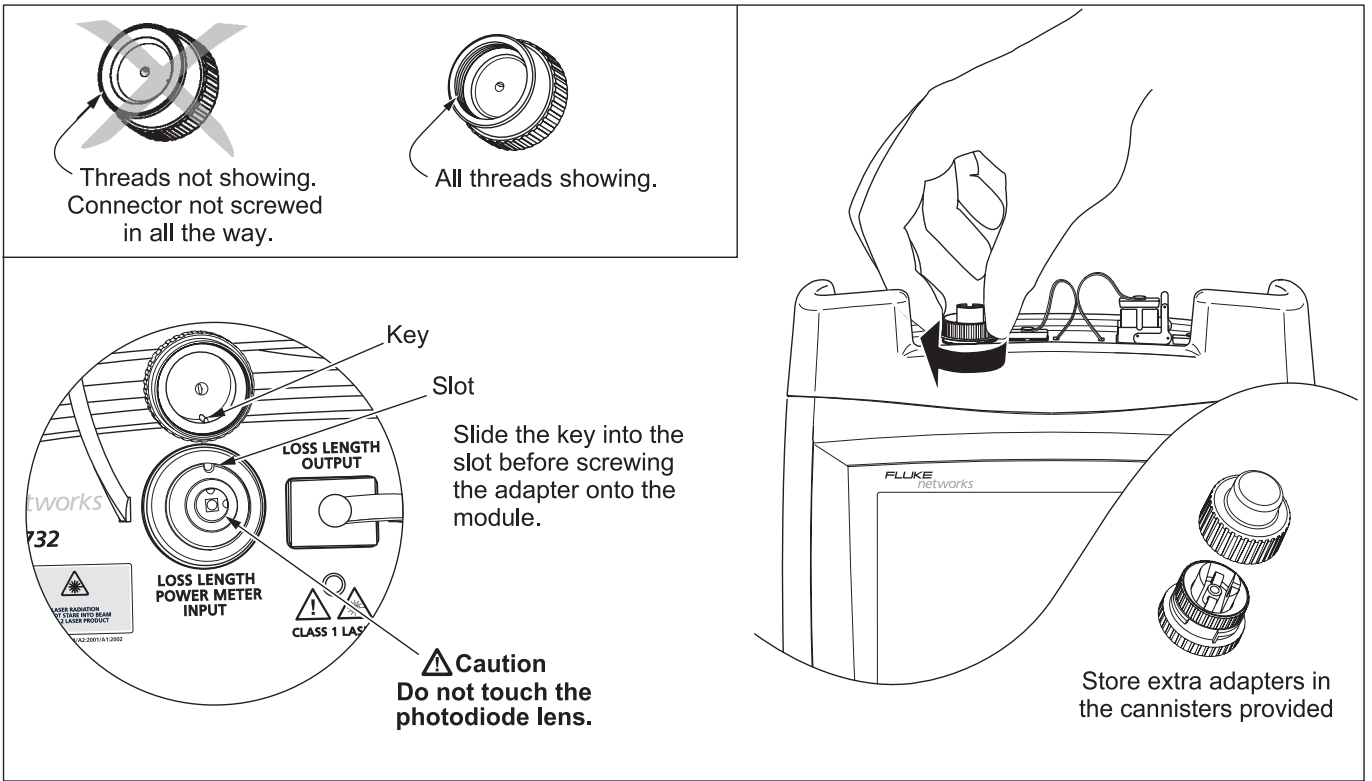

Figure 7-2. Changing the Connector Adapter
- Do not touch the photodiode lens (see Figure 7-2).
To install a connector adapter, refer to Figure 7-2 and do the following:
- 1 Remove the connector adapter to expose the photodiode lens (see Figure 7-2).